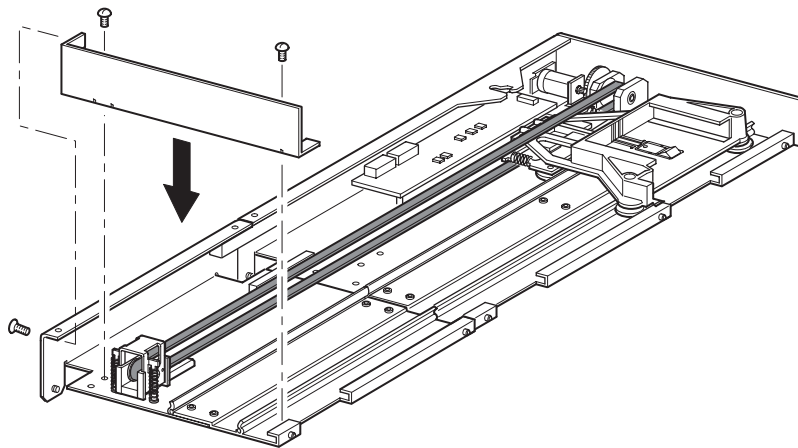

Figure 80. Assembled cartridge elevator and extension
21. Attach the bottom plate removed from the cartridge elevator in step 1 with the retaining screws as shown in Figure 80.